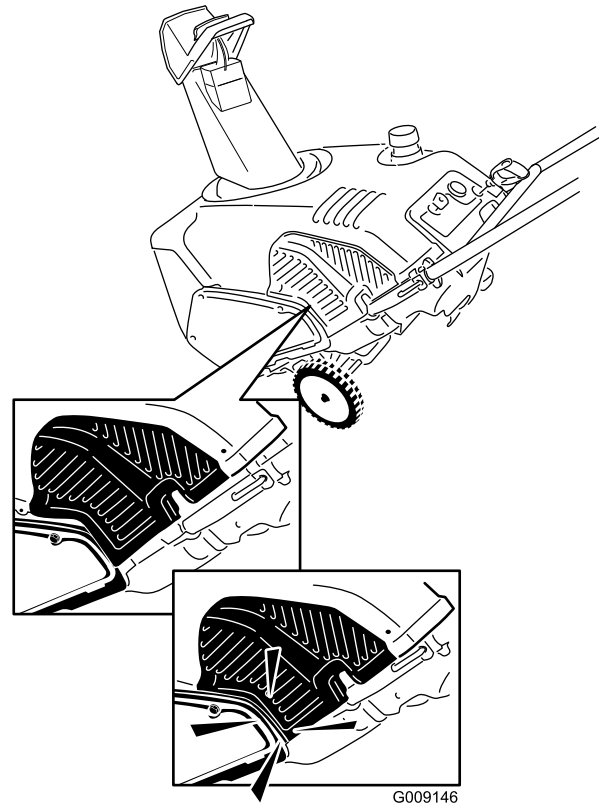

Figure 34
15. Tuck the lower lip of the guard behind the belt cover (Figure 34).